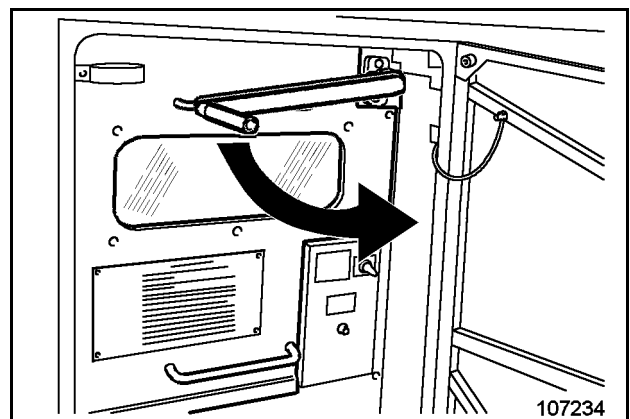

Fig. 2-83:
- Turn actuating lever (Fig. 2-83:) by 180° to the right. This tensions the cut-in spring and the circuit breaker is switched on.